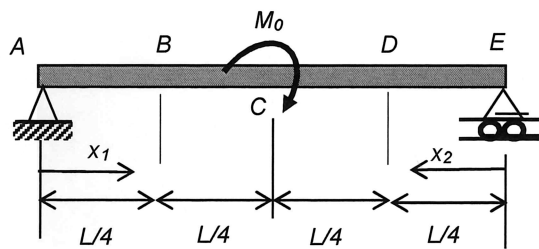

Figure Q3
3. Having a constant flexural rigidity EI , the simply supported beam $ABCDE$ as shown in Figure Q3 is loaded by a moment M_0 at the mid-span C . Points B and D are the mid-points of segments ABC and CDE , respectively.